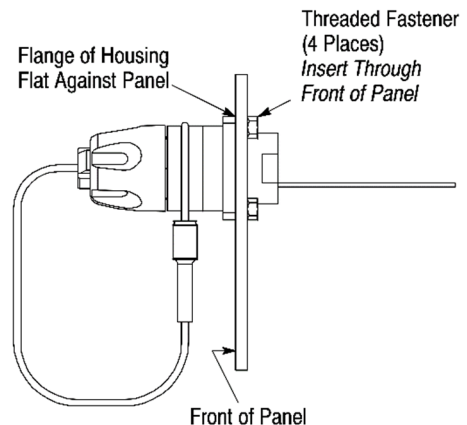

Figure 12
1. Cut the panel using the dimensions provided in Figure 12, Detail A.
2. Install the connector through the front of the panel so that the flange of the housing is flat against the panel. See Figure 12, Detail B.
3. Secure the connector to the panel using the threaded fasteners described in Paragraph 4.2. Tighten the fasteners to the manufacturer's recommended torque value. See Figure 12, Detail B.